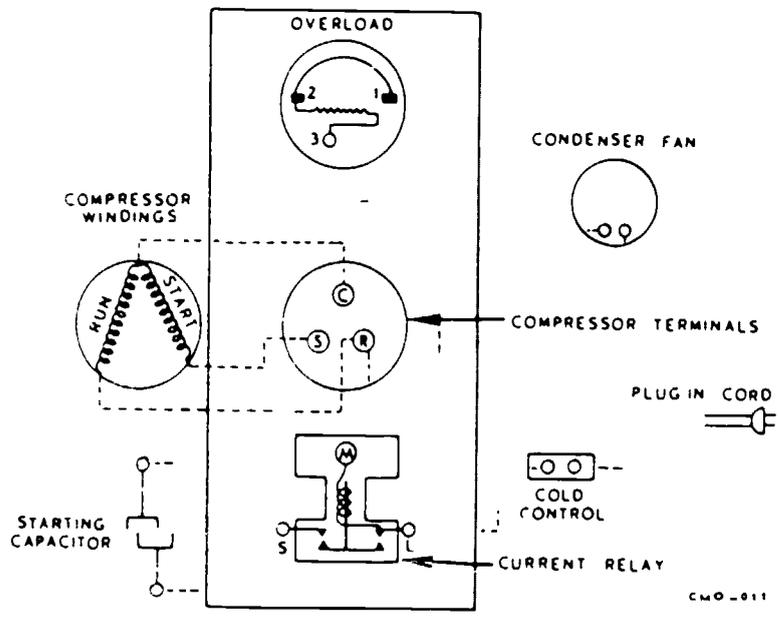

Figure 2 . Current Relay
1. Study the components in figures 2, 3, 4, 5, and 6.
1. Using diagram in figures 2, 3, 4, 5, or 6, wire the relay.